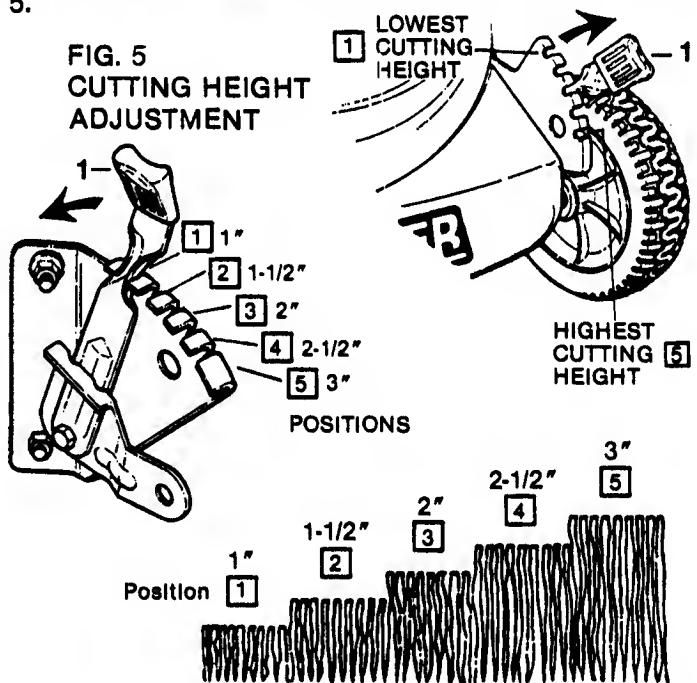

FIG. 5-A-CUTTING HEIGHT SETTINGS
- **CHECK** cutting height and adjust as needed, to suit the prevailing grass conditions. Refer to FIG. 5.
During dry seasons, allow the grass to grow taller than normal. Refer to FIG. 5-A.
**NOTE:** The highest cutting position is attained with the four latches set in notch 5. The lowest cutting position is with latches set in notch 1. Refer to FIG. 5.